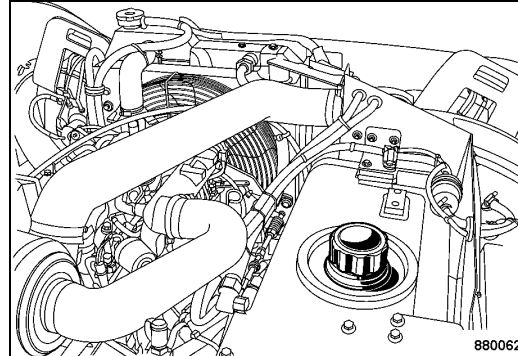

Fig. 167
- Remove the cap from the hydraulic oil tank (Fig. 167).